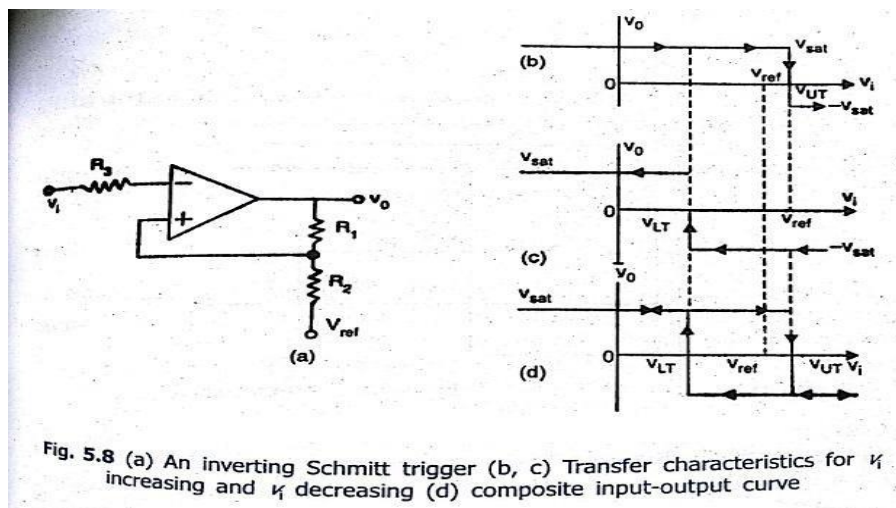

Fig. 5.8 (a) An inverting Schmitt trigger (b, c) Transfer characteristics for  $V_i$  increasing and  $V_i$  decreasing (d) composite input-output curve
- Figure 5.8 (a) shows a regenerative comparator. The circuit is also known as Schmitt trigger
- As long as  $V_i$  is less than  $V_{ut}$ , the output  $V_o$  remains constant at  $+V_{sat}$ . When  $V_i$  is just greater than  $V_{ut}$ , the output regeneratively switches to  $-V_{sat}$  and remains at this level as long as  $V_i > V_{ut}$  as shown in Figure 5.8 (b).
- The input voltage  $V_i$  must become lesser than  $V_{lt}$  in order to cause  $V_o$  to switch from  $-V_{sat}$  to  $+V_{sat}$ . A regenerative transition takes place as shown in Figure 5.8(c) and the output  $V_o$  returns from  $-V_{sat}$  to  $+V_{sat}$  almost instantaneously.
- The complete transfer characteristics are shown in Figure 5.8 (d).
- The resistor  $R_3$  in figure 5.8(a) is chosen equal to  $R_1 || R_2$  to compensate for the input bias current.
- A non-inverting Schmitt trigger is obtained if  $V_i$  and  $V_{ref}$  are interchanged in figure 5.8(a).